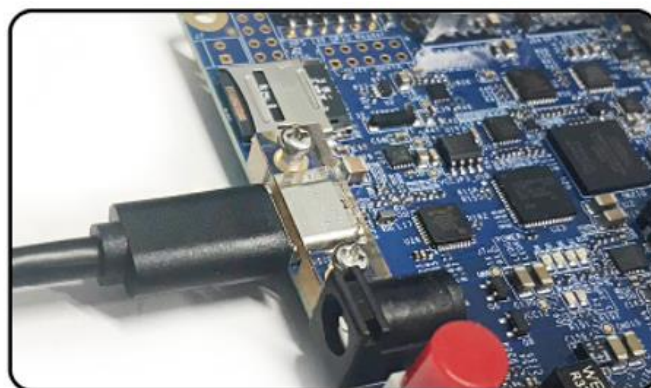

Figure 1-7 Connect the Micro USB cable to the board
1. Connect your computer to the development board by plugging the USB cable into the USB Type-C connector of the board. (Connection setup is shown in **Figure 1-7**)